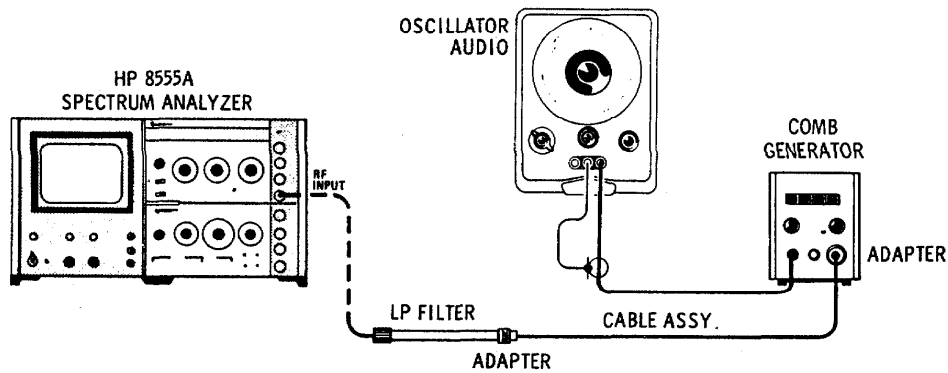

Figure 4-5. Scan Width Accuracy Test Setup
- 6. To test the 50 kHz SCAN WIDTH PER DIVISION setting, connect the test setup shown in Figure 4-5. Set controls as follows: